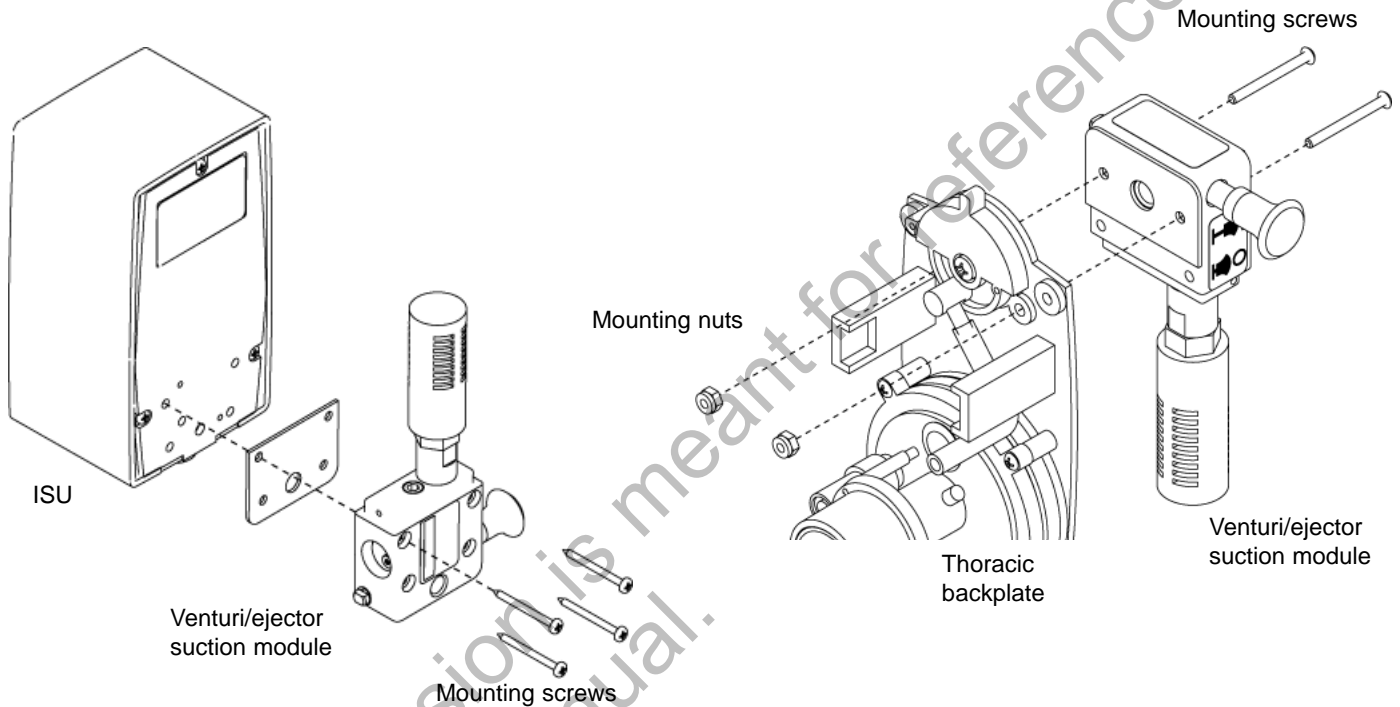

Figure 6-2
2. Remove the mounting screws (2 for thoracic mount- it may be necessary to remove the regulator cover to access the internal mounting nuts; 4 for ISU mount- see figure 6-2).
3. Install the mounting screws and tighten (on Thoracic you may need to hold the two nuts while tightening these screws- see figure 6-2).